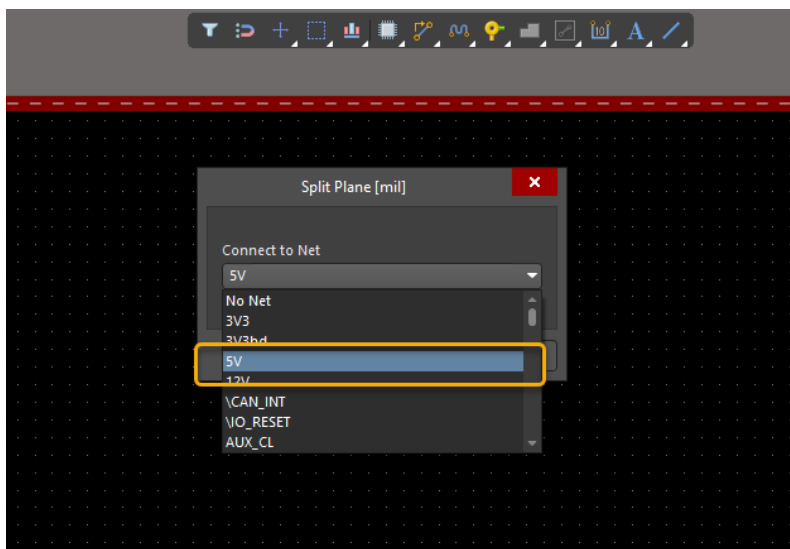

Figure 2. Changing the Power Plane net to 5V
10. Now, click on the **5V** layer from the layer bar and repeat the previous step to assign net 5V to the plane as shown in Figure 2.